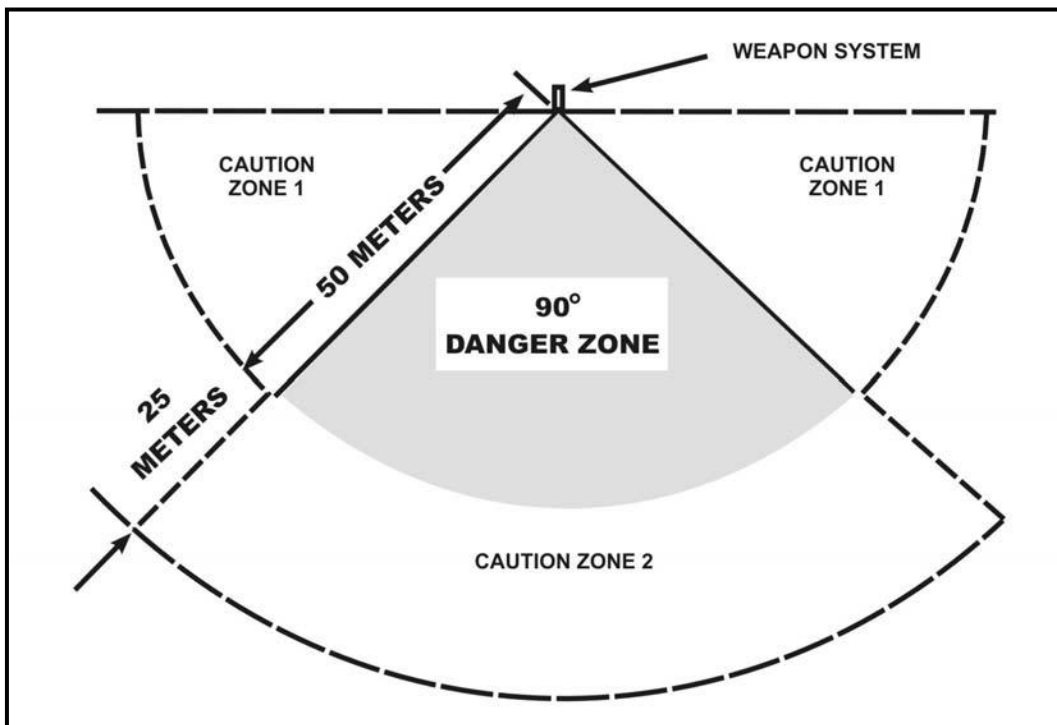

Figure E-3. ATWESS danger zone.
- b. Before pulling the PULL-TO-ARM switch, always check to ensure no personnel or equipment (antennas) are in the ATWESS danger zone. This zone extends for 75 meters behind the ATWESS firing chamber and covers an arc 90 degrees wide (Figure E-3).